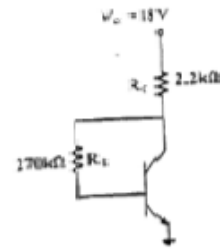

Figure 2
4. (a) Accurately analyze the collector-to-base bias circuit is shown in Figure 2 to determine the I_B , I_C and V_{CE} when